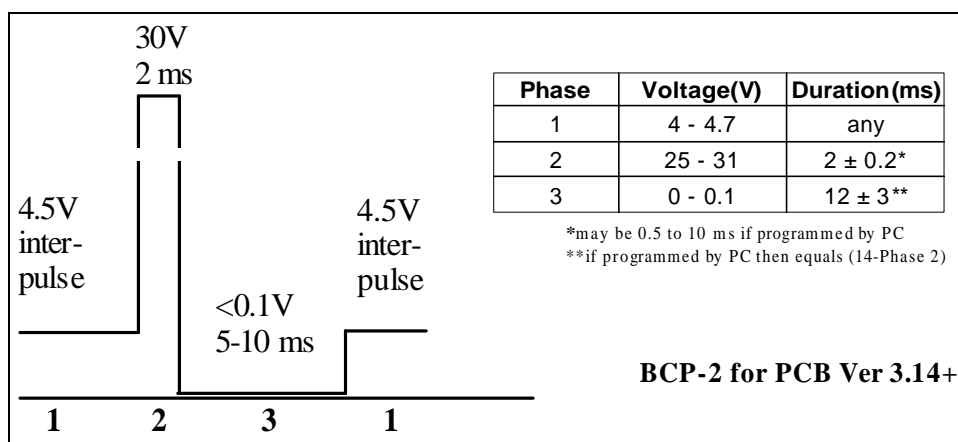
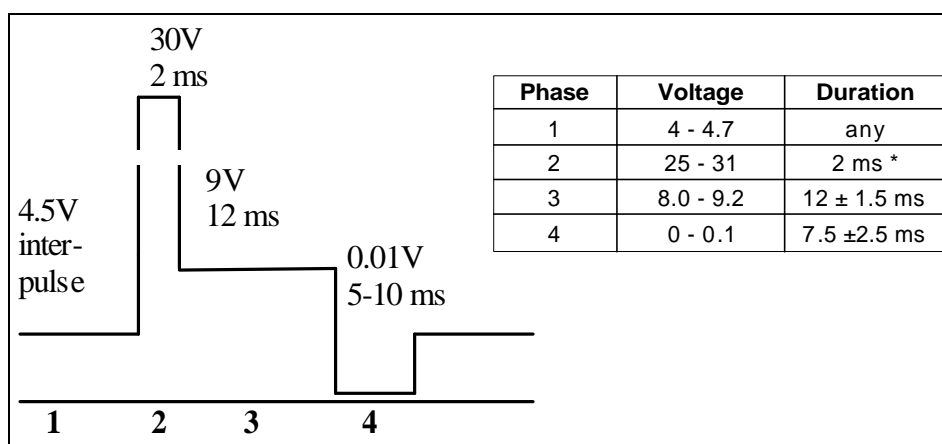

Figure 5 The correct observed signal from balance charge pacing (BPC-2 for PCB Ver 3.14+, i.e. SGU with Ser.No. > 300, [excl. 1000-1100])
Figure 6 The correct observed signal from balance charge pacing (BPC for PCB Ver 3.8 to 3.13, i.e. SGU with Ser.No. ≤ 300 & 1000-1100)
15.2 Connect +ve and -ve output terminal of MP1504T test jig to the Stimulus Connection Box +ve and -ve patient outputs of Chan1-ATRIUM terminals respectively.	Phases for PCB's 3.14+ (Fig 5): 1. Ph1: 4.0 to 4.7 V 2. Ph2: > 25 V 3. Ph3: < 0.1 V 4. Ph1: 4.0 to 4.7 V
15.4 Start pacing and measure output voltage during and immediately after stimuli in the phases shown in Figure 5 or Figure 6 below.